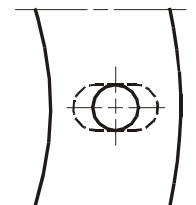

Fig. 4
- Widen, if necessary, the insulating gasket holes (4), (see Fig. 4).